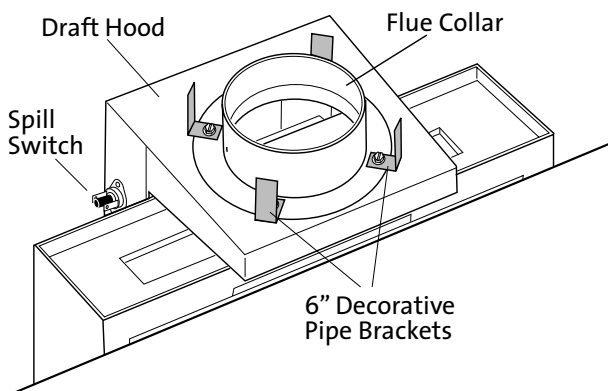

Figure 27. Decorative pipe attachment.
1. Remove the four 1/4" hex head screws that attach the 4" Flue Collar to the draft hood, but do not remove the Flue Collar. See Figure 27.
NOTE: This appliance is equipped with a Spill Switch which will disable the burner in the event that the vent system becomes blocked or draft is reversed or too low which could result in toxic CO emissions. Located on the side of the Draft Hood, at the back of the stove, the switch has a reset button that, when pressed, will re-enable burner function. See Fig. 27.